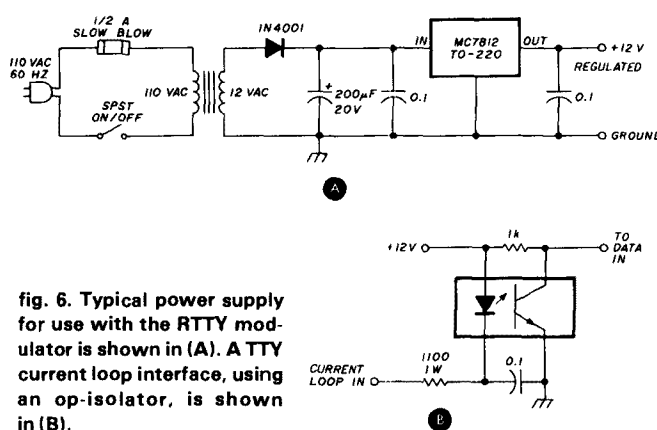

fig. 6. Typical power supply for use with the RTTY modulator is shown in (A). A TTY current loop interface, using an op-isolator, is shown in (B).
fig. 6. Printed circuit board pattern for the antenna position display (above) and parts placement diagram (below). A printed circuit board can be obtained from the author.
fig. 6. Typical family of AT-cut frequency/temperature variations for change of angle only (thin plates). (A). These are cubic functions centered on 27 degrees C. Sketch (B) shows frequency/temperature curves where the point of zero temperature coefficient can't be controlled. These curves are typical of low-frequency cuts.